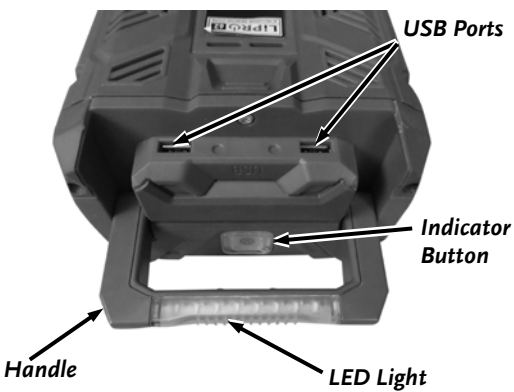

Figure 18
2. Flip the Handle to the open position (**Figure 18**)
2. Flip the Handle to the open position (**Figure 18**).